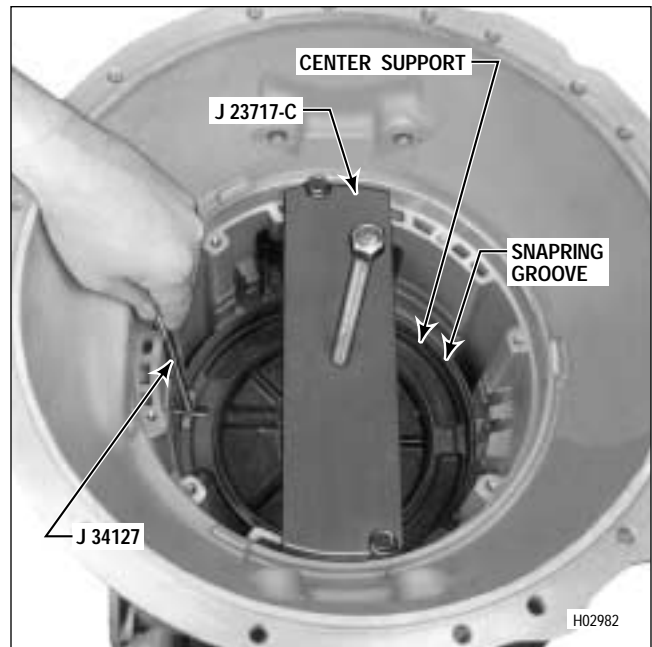

Figure 7-11. Measuring For Selection of Center Support Snapping
(9) Using snapping gauge J 34127, measure the snapping groove clearance (Figure 7-11). The gauge has four lugs of different thicknesses, with each lug thickness stamped on the tool shaft. Try all four lugs in the groove. The thickest lug which will enter the groove indicates the thickness of the snapping required.
(10) Select a snapping from the list.